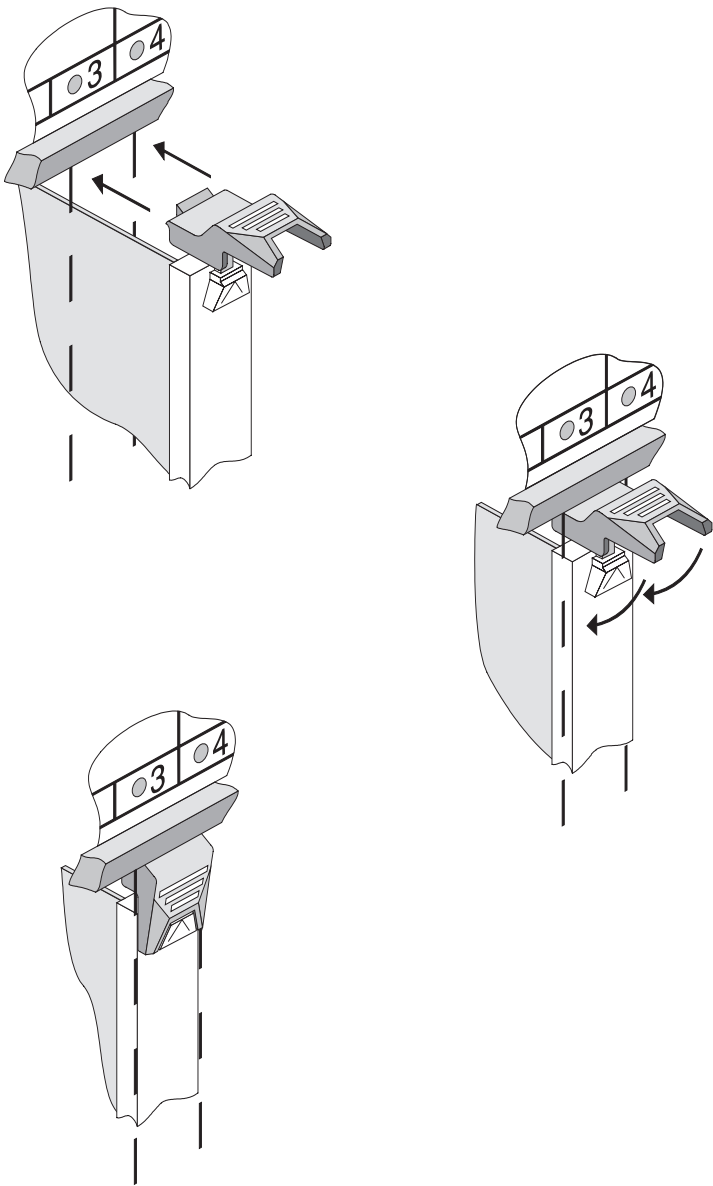

Figure 3-4 Locking the module into position
- 5 Raise the ejectors at the top and bottom of the module to the open position (see Figure 3-4). Engage the module into the runners at the top and bottom of the chassis and gently push it into the chassis until the hook at the top of the ejector locates under the edge of the chassis (see Figure 3-4). Ensure that the ejector at the bottom of the module is in a similar position.
- 6 Simultaneously, press the ejector flaps at the top and foot of the module firmly down into the closed position (Figure 3-4). Check that the module has been fully pushed home by placing both your thumbs on the module front panel and firmly pressing the module home. Check that the module front panel is flush with the chassis and other modules.